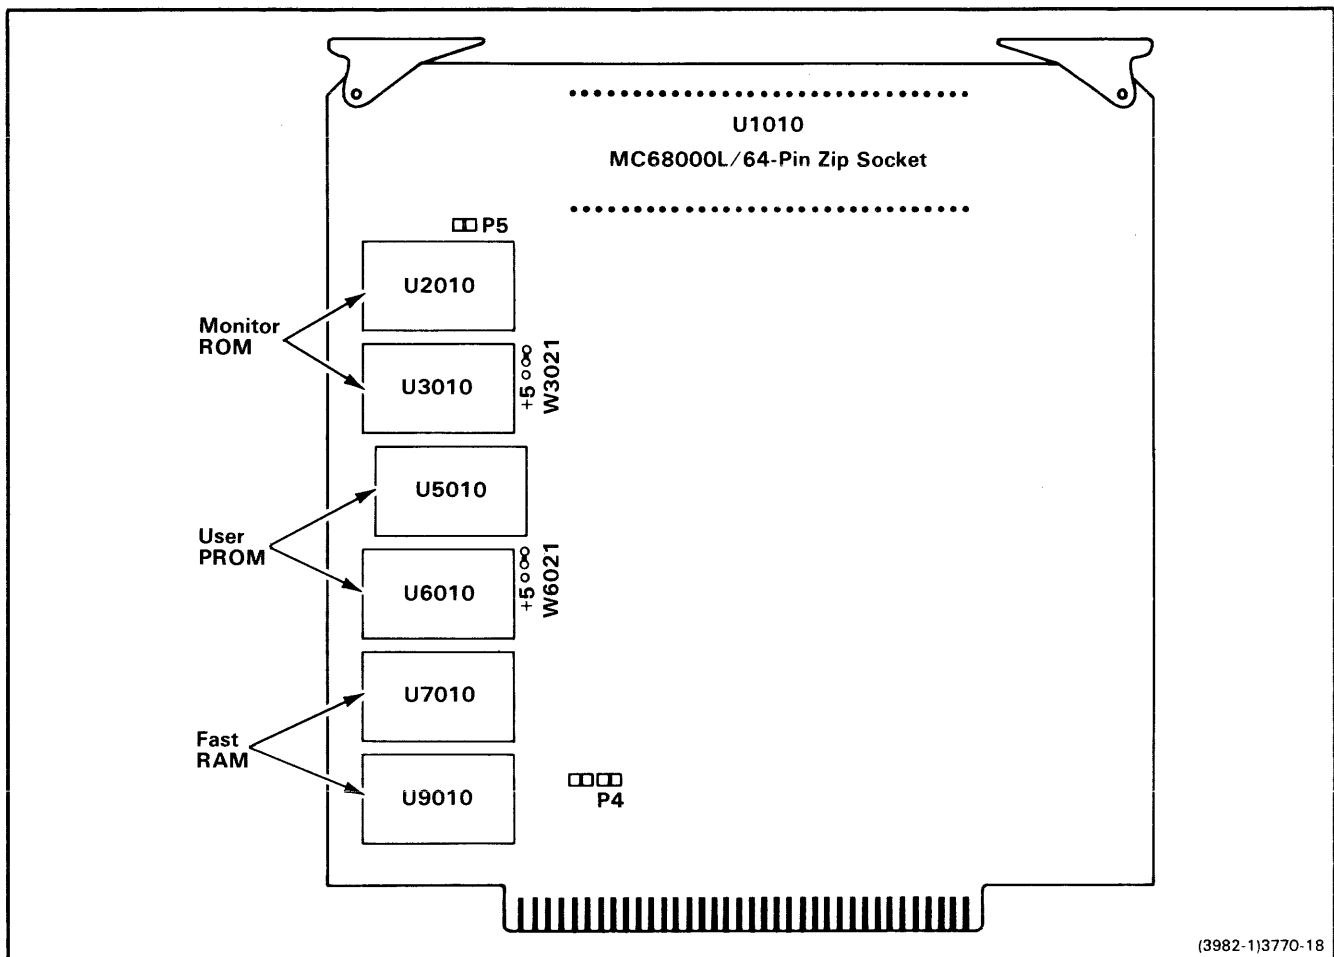

Fig. 7-1. 68000 Personality Card jumper and strap locations.
2. Verify that jumpers P4 and P5 are correctly installed on the 68000 Personality Card (see Fig. 7-1). For more information on 68000 Personality Card jumpers, refer to the Jumpers discussion in the 68000 Personality Card supplement.